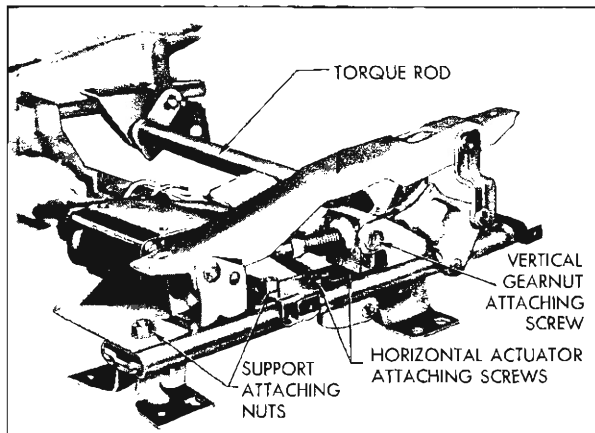
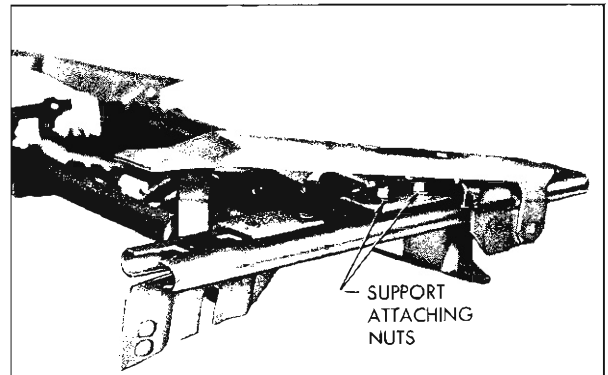

Fig. 22-4 Adjuster Mechanism
Fig. 22-5 Inboard Bucket Seat Adjuster
5. Remove nuts securing motor and transmission support to adjuster assembly (See Fig. 22-4 for outboard adjuster and Fig. 22-5 for inboard adjuster).
2. Using a clutch type screwdriver or other suitable tool, remove shoulder screws securing linkage to vertical gear nut. (Fig. 22-4).
5. Remove screws securing horizontal actuator assembly to adjuster lower track; then remove actuator from adjuster assembly. (Fig. 22-4).
3. Remove nuts securing motor and transmission support to inboard adjuster (Fig. 22-5).
2. Remove nuts securing support to both adjusters. (See Fig. 22-4 for outboard adjuster and Fig. 22-5 for inboard adjuster).